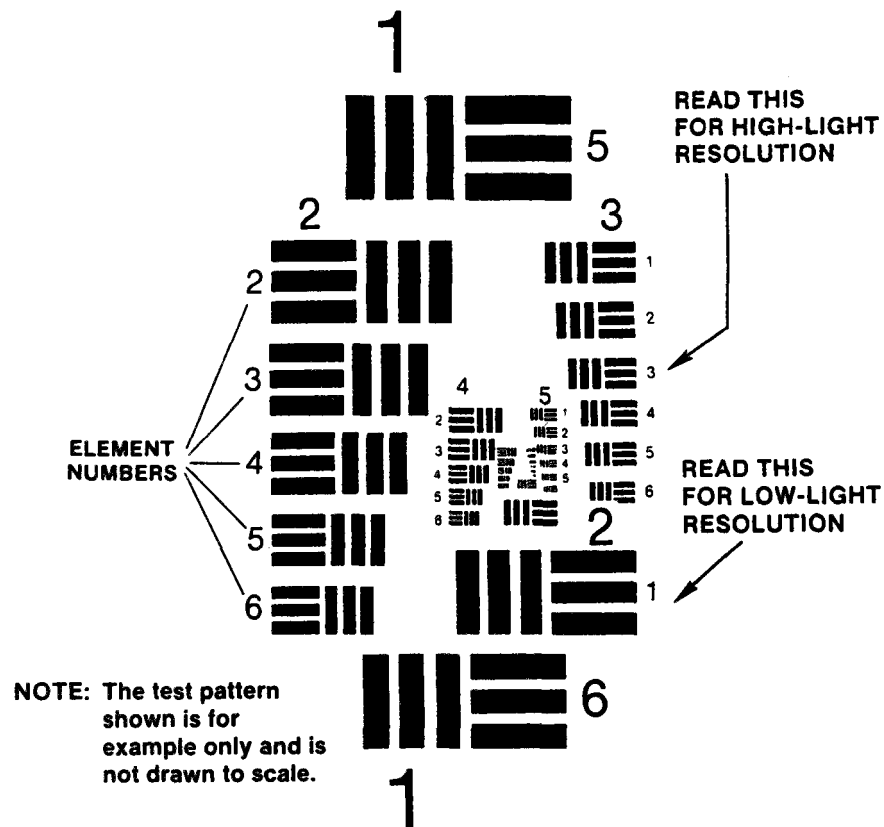

Figure 3-8. TS-4348/UV Test Set Pattern.
9. The NVG must be able to resolve Group 2, Element 1 (fig. 3-8) under low-light conditions to pass the test. If the monocular does not pass the test, send the NVG to DS for repair.